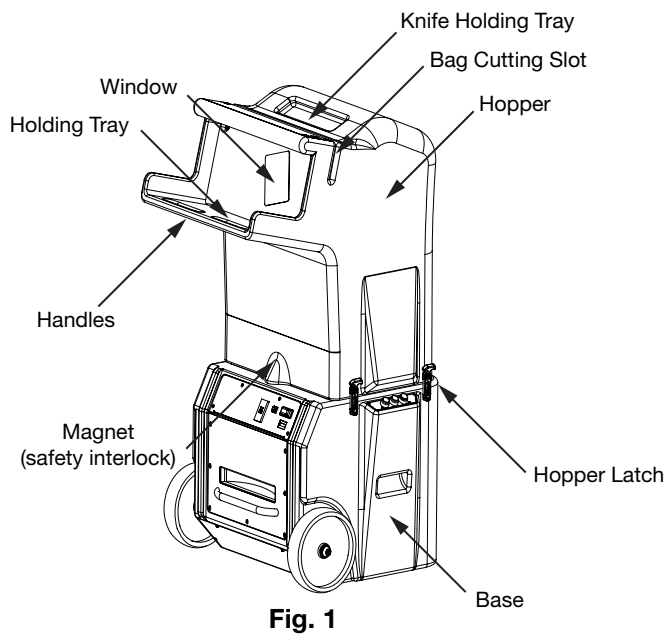
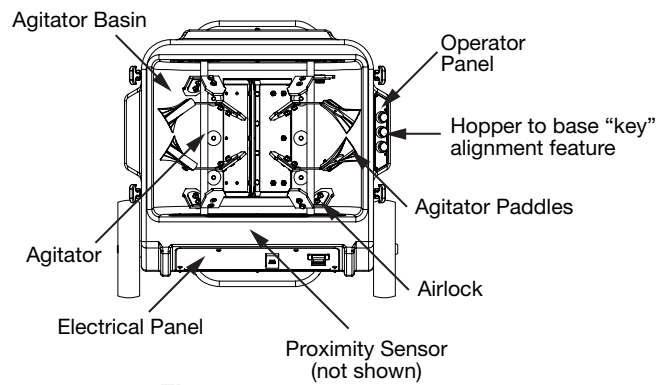

Fig. 1
Fig. 4
- **Hopper (Fig 1)** The top part of the machine which has a built-in loading tray and contains the fiber glass insulation. *Note the key slot on the bottom right side of the hopper that matches the key feature in the machine's base when assembled properly (Fig 4).*
- **Base (Fig 1)** The lower part of the machine which houses the rotating agitator blades, agitator motor, blower motor, drive components and electrical system. *Note the base's key feature on the side by the operator panel; this key feature goes into the hoppers key slot when assembled properly (Fig 4).*
- **Magnet, Safety Interlock (Fig 1)** Located in both the hopper and base components and is part of the safety of this machine.
- **Hopper Latch (Fig 1)** Located on both the hopper and base with a total of four latches. The latches secure the hopper and base together for normal operation.
- **Bag Cutting Slot (Fig 1)** This feature is molded into the hopper and is used to assist in guiding the knife when opening the bag.
- **Knife Holding Tray (Fig 1)** This feature is molded into the hopper and should be used to hold the knife when not in use.
- **Window (Fig 1)** There are two windows in the hopper. These windows allow the operator to observe the flow of material and assist in determining when to load the next half bag of fiber glass insulation.
- **Agitator Basin (Fig 4):** This is part of the base and houses the rotating agitators. It also has an opening at the bottom which allows the insulation to flow into the airlock.
- **Agitator(s) (Fig 4)** There are two agitators located within the base. They rotate at a moderate speed to condition the fiber glass insulation material to the desired density.
- **Agitator Paddles (Fig 4)** These are located on the agitator within the base. They are attached to each agitator blade and are made of rubber. There are two different styles to help facilitate both the conditioning and production of the fiber glass insulation material.
- **Airlock (Fig 4)** Located in the bottom of the base and below the agitator(s). This part of the system is used to meter the proper amount of conditioned insulation into the air stream of the blowing hose.